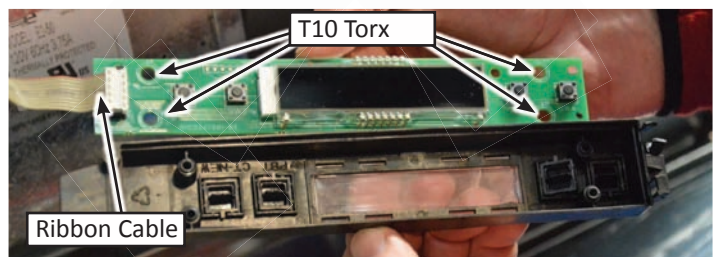

Figure 5
- Remove (4) screws that secure the board to the switch housing, see figure 5. Disconnect ribbon cable.